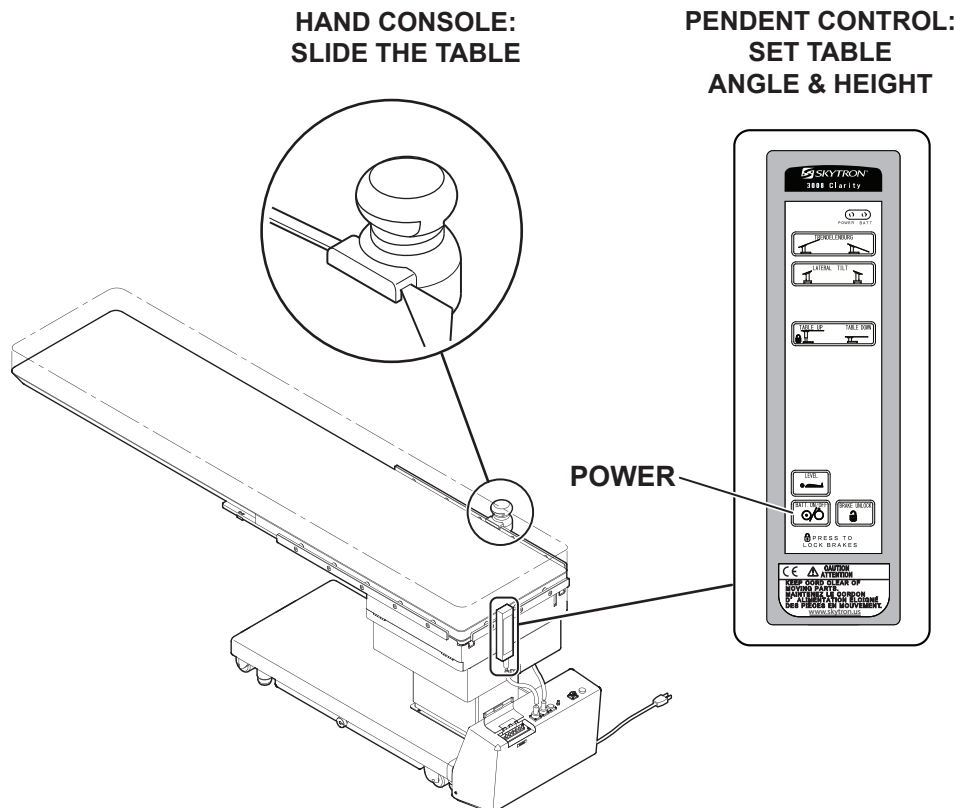

Figure 6. Hand Console / Pendant Controls
3. **Set the tabletop angle and height** – use the pendant control buttons (Figure 6) to angle the table top or change table height.
4. **Horizontally position the tabletop** – push and hold the hand console button (Figure 6) and slide the table to the desired position.